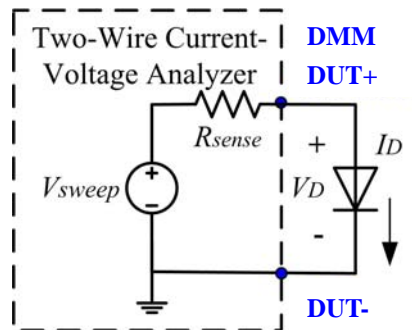

Figure 1: Test setup for measurement of diode I–V characteristics
As shown in Figure 1, “Two-Wire Current-Voltage Analyzer” of NI ELVIS II will sweep the voltage V_{sweep} across the DUT (Device Under Test). The DUT voltage and current (obtained by an internal sensing resistor R_{sense}) will be measured and displayed on the SFP (Soft Front Panel).
- 1 Connect the diode under test between DMM DUT+ and DUT- terminals as shown in Fig.1.